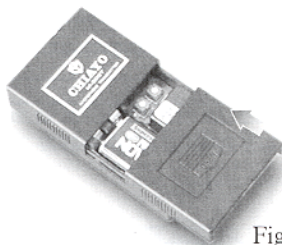

Fig. 5
4. Insert a 9V battery with correct polarity into the battery compartment and put back the compartment cover, as shown in Fig. 5.